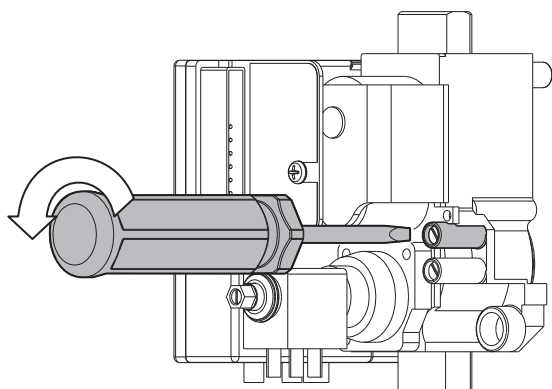

Fig.5
- To connect the pressure gauge, loosen the sealing screw of the pressure outlet (fig. 5).
- Disconnect the pressure gauge and replace the screw with care (fig. 5)